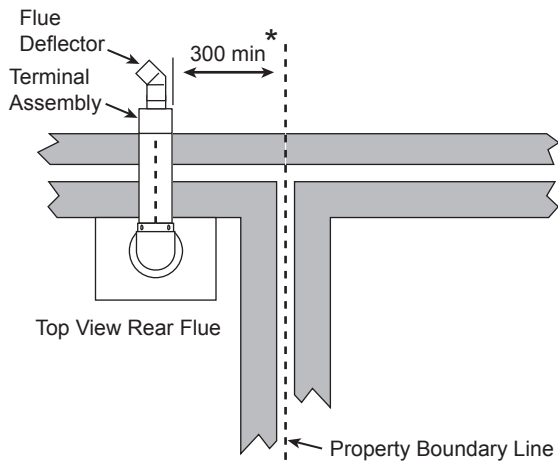

Fig. 12
*4. The distance from a fanned draught appliance terminal installed parallel to a boundary may not be less than 300 mm in accordance with the diagram opposite (Fig. 12).